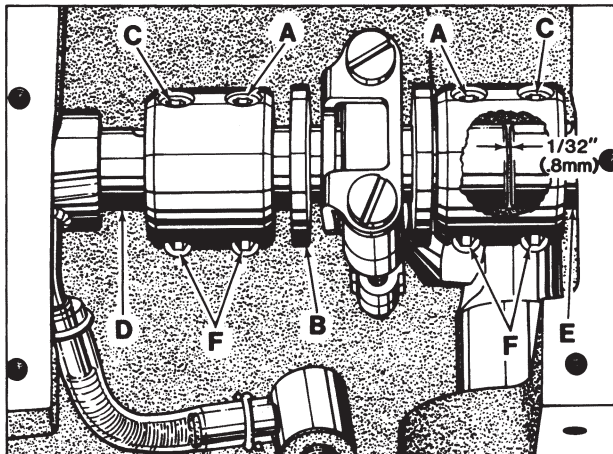

Fig 17
As viewed looking down from rear of machine, spot screws (A, Fig. 17) in the couplings must align with the spots in the looper drive crank (B) and set screws (C) must align with the flats on crankshaft (D) and mainshaft (E).
Looper drive crank (B, Fig. 17) must be positioned laterally with 1/32 inch (.8mm) clearance between it and mainshaft (E) as shown in Fig. 17. Once these settings are made, it is very important that the couplings are tightened in the following sequence for best performance.